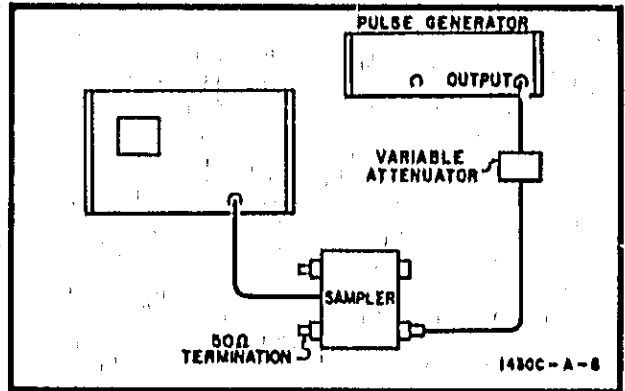

Figure 5-3. Noise Test Setup
- b. Connect equipment as shown in figure 5-3.